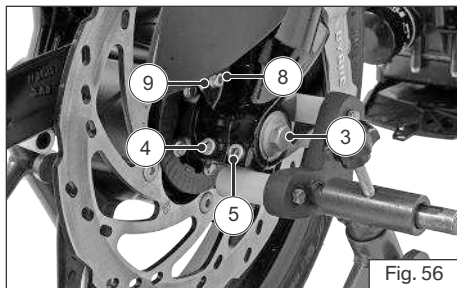

Fig. 56
- ◆ Remove the locking screw (3) (ref. Fig. 56).
- ◆ Loosen the right side clamping screws (4) and (5).
- ◆ Slightly press the quick-release axle (6) inward for a better grip on the right side.
- ♦ Mount the front wheel stand again and install the locking screw (3) with specified torque (ref. Fig. 56).